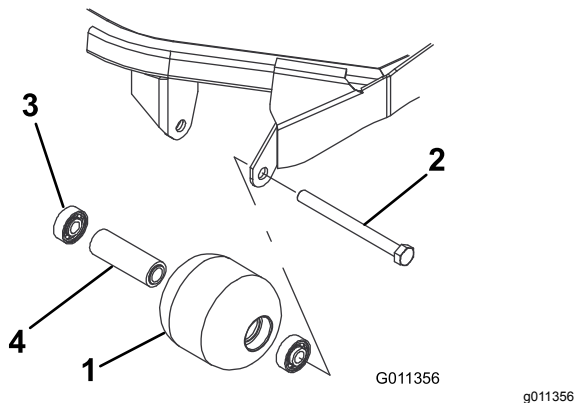

Figure 86
1. Remove the roller mounting bolt (Figure 86).
4. Inspect the roller housing, bearings, and bearing spacer for damage (Figure 86). Replace damaged components and assemble.
1. Press the first bearing into the roller housing (Figure 86). Press on the outer race only or equally on the inner and outer race.
2. Insert the spacer (Figure 86).
3. Press the second bearing into the roller housing (Figure 86) pressing equally on the inner and outer race until the inner race comes in contact with the spacer.